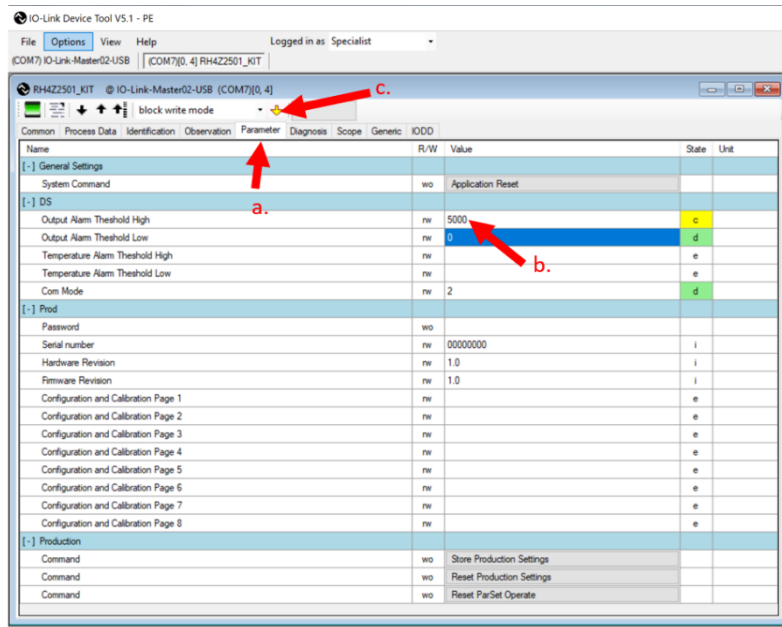

Figure 14. Changing Parameter Values
- b. Set the thresholds in the tables by entering the values in the fields (see Figure 14).
- c. Write the NVRAM by clicking on the icon (see Figure 14).